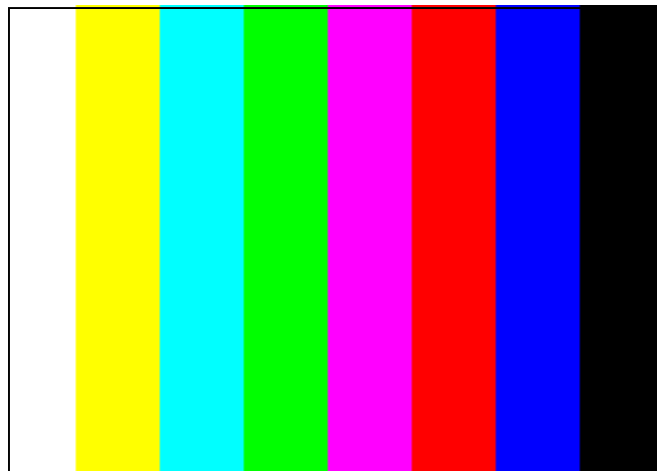

fig2
b. SD correction: input VG-848 signal of YPBPR to YPBPR terminal and input TIMING968 (480i) PAT968 color bar (see fig2), (color from left to right are white- yellow- cyan- green- purple- red- blue- black), enter ADC ADJ submenu, select AUTO COLOR the system will correct automatically, after finish, it will return to AUTO COLOR menu. Please check the picture and data, if they are abnormal, then the correction is failure and needs to correct again.